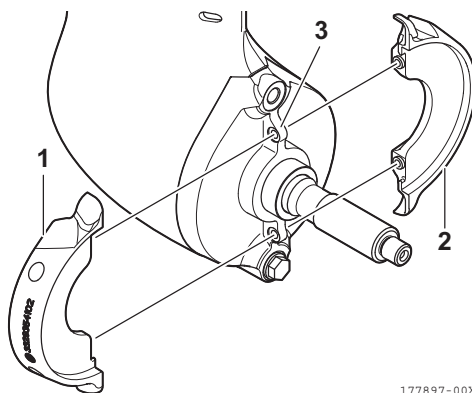

Figure 29
1. Assemble the anodes (1, 2, **Figure 29**) on the propeller shaft support (3, **Figure 29**).
*Note: Pay attention to the direction of assembly of the anodes (1, 2, **Figure 29**). Assemble anode (1, **Figure 29**) on the left side and anode (2, **Figure 29**) on the right.*